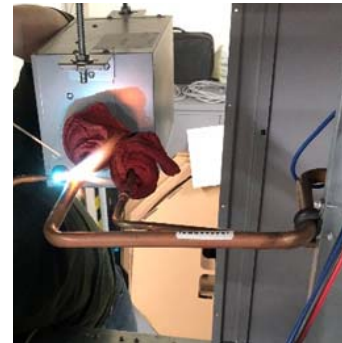

Fig. 55 - Braze Adapter Fittings
3. If required, braze the appropriate adapter fittings onto both sides of the FS box as shown in Fig. 55. The adapter fittings are included with the FS box. Reference the FS box installation manual for sizing. Then braze the liquid and suction lines on the rooftop unit onto the FS box adapter fittings while purging with nitrogen.